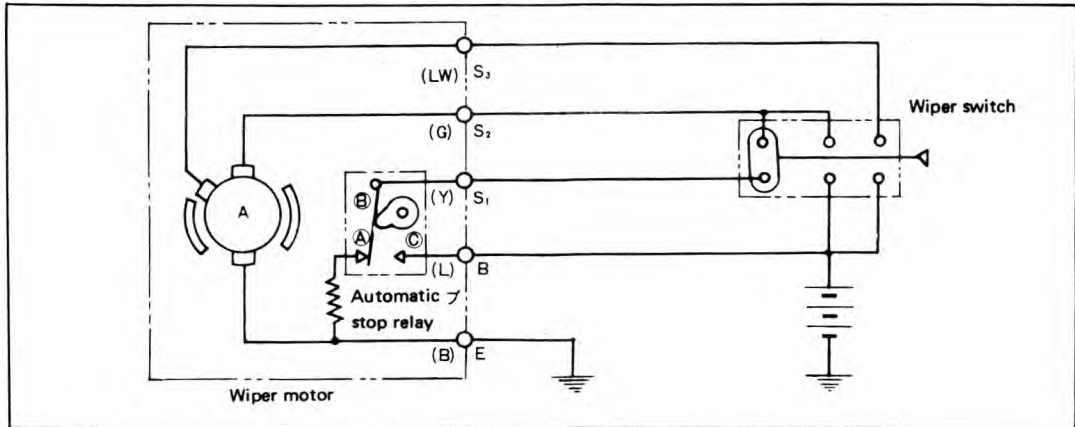

Fig. 12-16 Wiper switch when stopped
3 : When contact point (B) and (A) connected in the automatic stop relay, the rotor = resistance = terminal S1 = switch = rotor close circuit is produced as shown in Fig. 12-16.